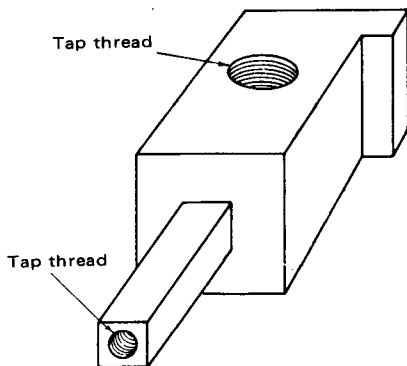

Fig. 3.68
5. Make a drawing in either first- or third-angle projection of the object shown in Fig. 3.68.